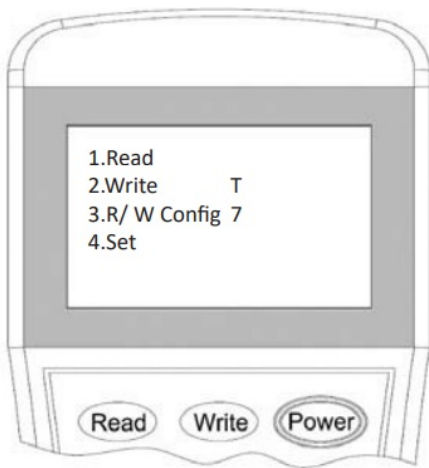

Figure 14
2. Switch on the programming tool, then press button “4” to enter to Setting mode (Figure 14). The programming tool will display the actual configuration after few seconds. Input the desire Tone (Table 1) then press “Write” to change the setting (Figure 15).